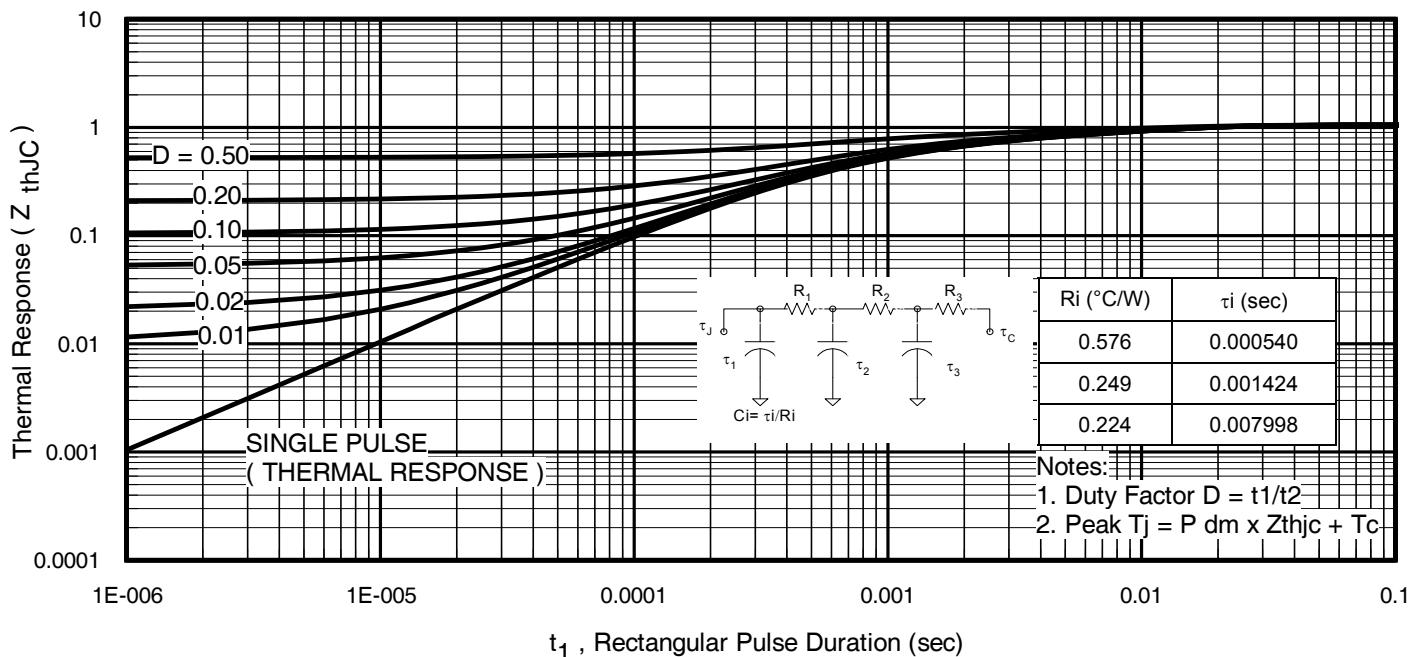
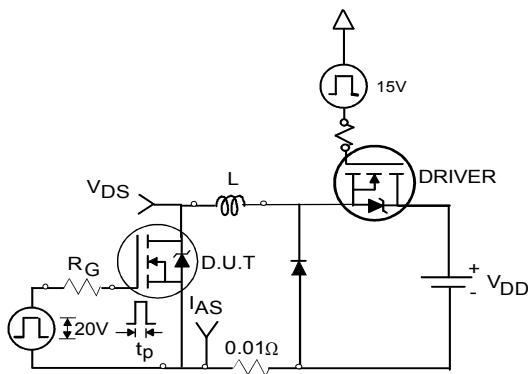

Fig 11. Maximum Effective Transient Thermal Impedance, Junction-to-Case
Fig 12a. Unclamped Inductive Test Circuit
- ① Repetitive rating; pulse width limited by max. junction temperature. (See fig. 11).
- ② starting $T_J = 25^\circ\text{C}$, $L = 0.28\text{mH}$, $R_G = 25\Omega$, $I_{AS} = 33\text{A}$, $V_{GS} = 10\text{V}$. Part not recommended for use above this value.
- ③ Pulse width $\leq 1.0\text{ms}$; duty cycle $\leq 2\%$.
- ④ $C_{oss \text{ eff.}}$ is a fixed capacitance that gives the same charging time as C_{oss} while V_{DS} is rising from 0 to 80% V_{DSS}
- ⑤ Limited by $T_{J\max}$, see Fig.12a, 12b, 15, 16 for typical repetitive avalanche performance.
- ⑥ This value determined from sample failure population. 100% tested to this value in production.
- ⑦ When mounted on 1" square PCB (FR-4 or G-10 Material). For recommended footprint and soldering techniques refer to application note #AN-994.
- ⑧ Refer to D-Pak package for Part Marking, Tape and Reel information
3. Equation below based on circuit and waveforms shown in Figures 12a, 12b.
$Z_{thJC}(D, t_{av})$ = Transient thermal resistance, see figure 11